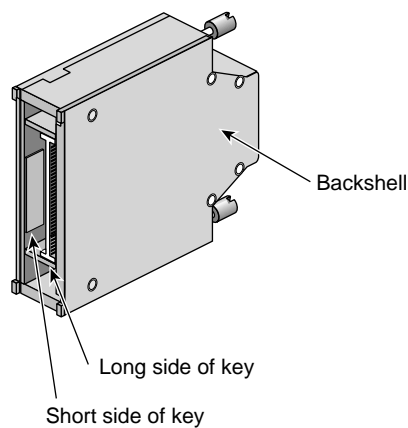

Figure 3-1 GSN Loopback Device
2. At the SGI GSN port, remove the external GSN cable and install a loopback device (illustrated in Figure 3-1).